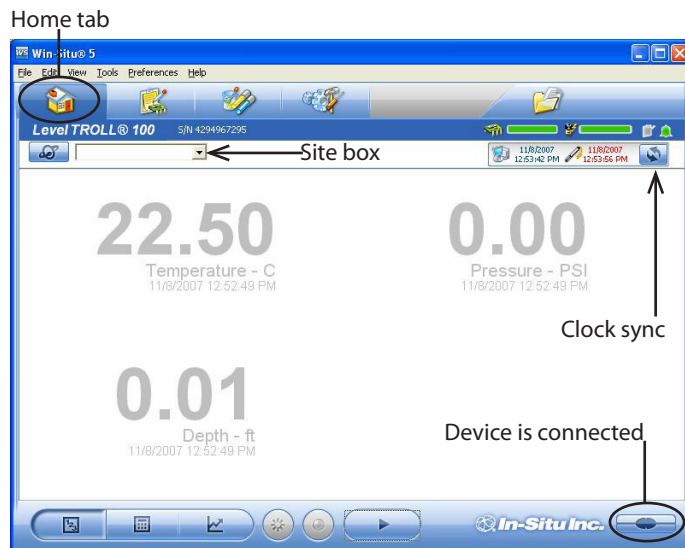

Fig. 2. Home tab with device readings
- The software will connect and display a reading of all supported parameters in the Home tab (Fig. 2).
Data collection schedules depend on the device clock, shown with the system (PC) clock near the top of the screen when connected (Fig. 2). If the device clock is red, synchronize it to the system clock by clicking the Clock Sync button (Fig. 2).
- To set the new site in the Rugged TROLL: Return to the Home tab, click the down arrow beside the site box (Fig. 2), and select the new site.